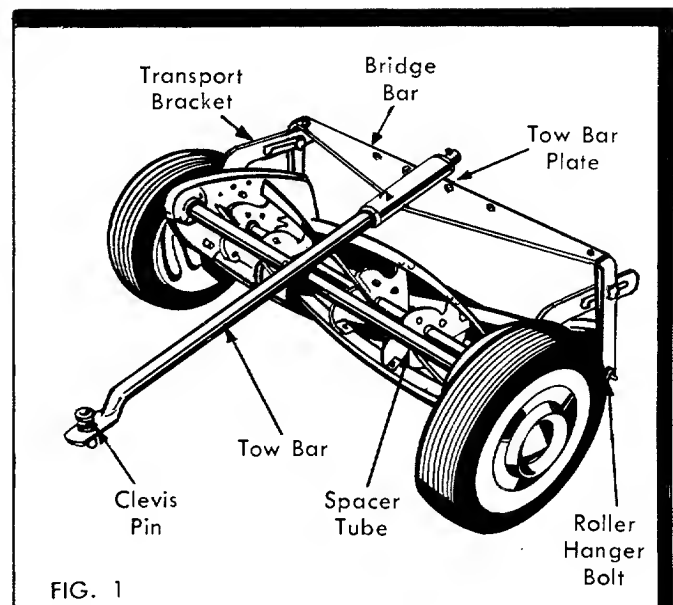

FIG. 1
TO TIGHTEN CUTTER BAR ADJUSTMENT (FIG. 1)
TO LOOSEN CUTTER BAR ADJUSTMENT (FIG. 1)
2. Insert Tow Bar through Tow Bar Plate. Secure with washer, clevis pin, and cotter. (Fig. 1)